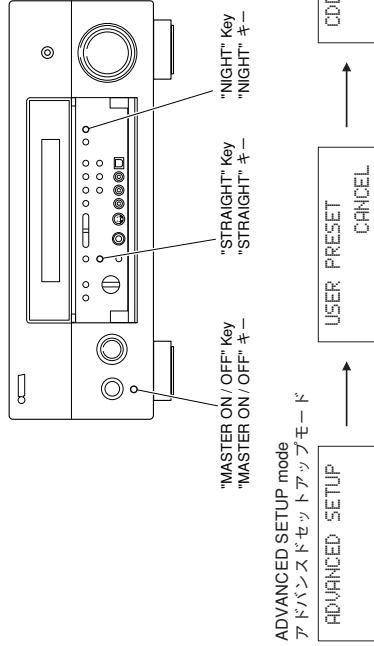

Fig. 2
- Then the ADVANCED SETUP mode is activated. (Fig. 2)
5. Keep pressing the "NIGHT" key for about 3 seconds. (Fig. 2)
6. CDDA Upgrader 1700 is displayed. (Fig. 2)